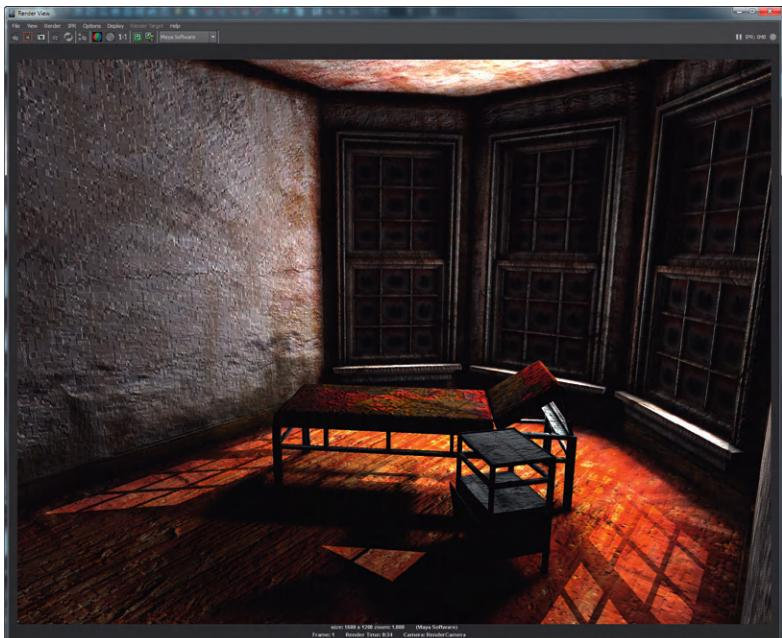

FIG 7.27 Duplicated Window Area Lights.
Step 8: Duplicate this Area Light and place appropriate for each of the other windows. Render (Fig. 7.27).
The default rendering engine in Maya is Maya Software. This is a reasonably fast rendering engine that works with fairly simple physics models of light behavior. Some of this behavior becomes clear in renderings like Fig. 7.27 in which you can see all sorts of light streaming in, but yet, big chunks of the scene is still really dark. This is because the light hits a surface and dies, when in the real world, light bounces off of most non-black surfaces and provides further illumination to surfaces around it. And here's where Maya Software immediately begins to show some of its restrictions.